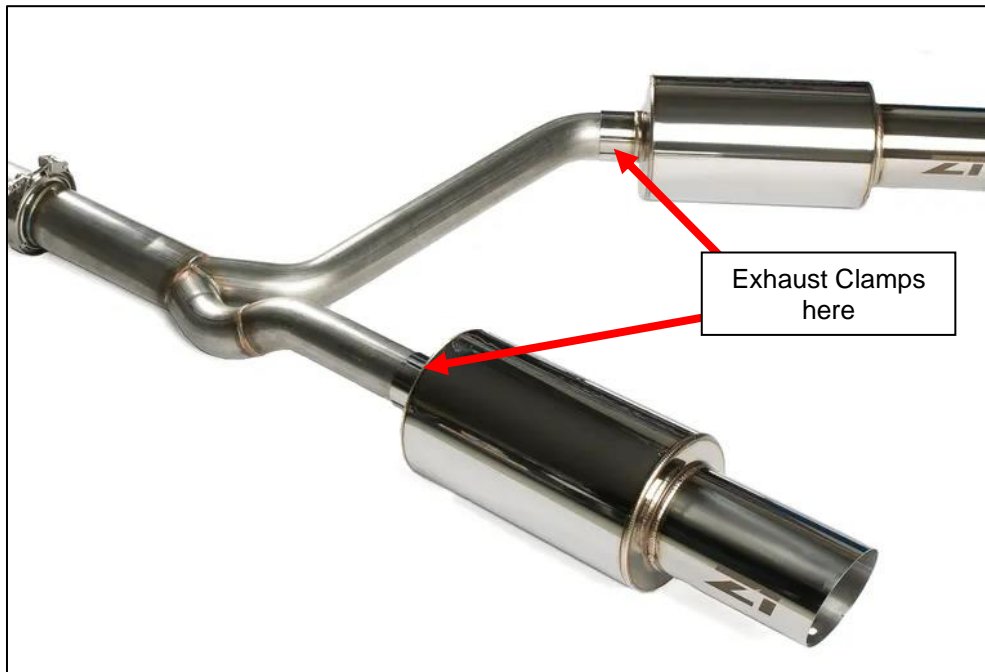

Figure 6
6. Locate the Rear Mid-Pipe and (2) two Exhaust Clamps. Install the Rear Mid-Pipe to the Mufflers and secure with the Exhaust Clamps. *Figure 6.*